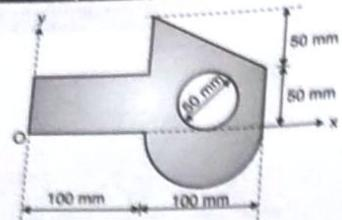

Fig. Q. 7
- Q. 7** Determine the co-ordinates of the centroid of the lamina shown in Fig. Q. 7 w.r.t origin 'O'. Note that the circle of diameter 50 mm is cut out from the plane lamina, with centre at (150, 25).